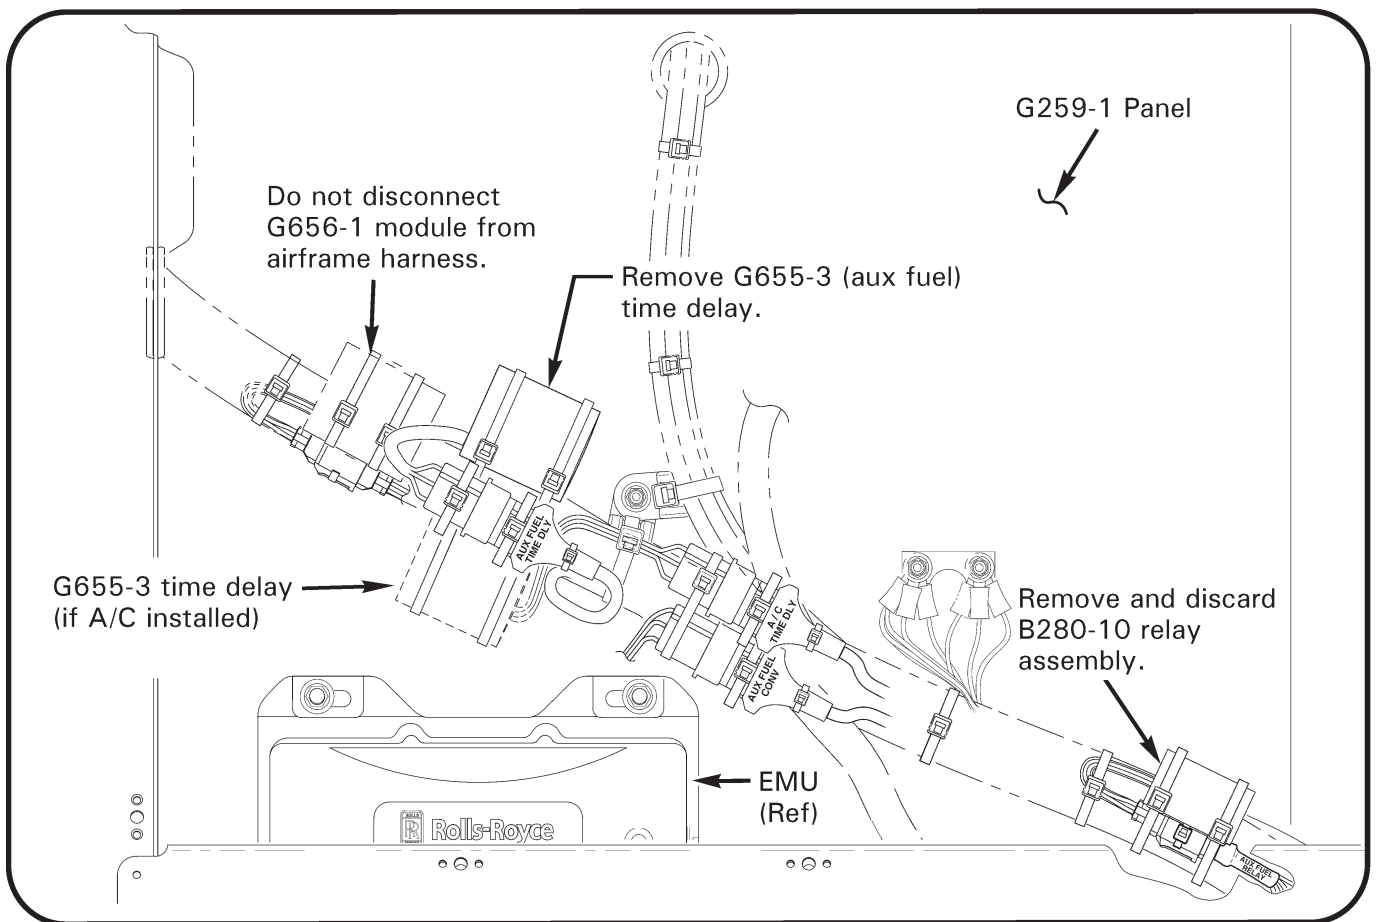

FIGURE 1
1. Remove aux tank per R66 Maintenance Manual (MM) § 28-51.
3. Refer to Figure 1. Locate G655-3 time delay connected to airframe harness plug labeled “AUX FUEL TIME DLY”. Disconnect aux fuel time delay and remove. Determine if (removed) time delay is affected by R66 SB-24; discard if affected by SB-24, otherwise retain as spare, if desired.
5. Refer to Figure 1. Remove ty-raps securing G656-1 module (generator-reset) to harness but do not disconnect attached connector. If air conditioning (A/C) is installed, locate G655-3 time delay connected to airframe harness plug labeled “A/C TIME DLY” and remove ty-raps securing time delay.
8. Refer to Figure 1. Locate B280-10 relay assembly connected to airframe harness plug labeled "AUX FUEL RELAY". Disconnect relay, remove and discard. Connect D835-4 harness assembly to [removed relay] airframe plug. Secure connector using (1) MS3367-3-9 ty-rap. Cinch ty-rap until snug without over-tightening, and trim tips flush with heads. Verify security.